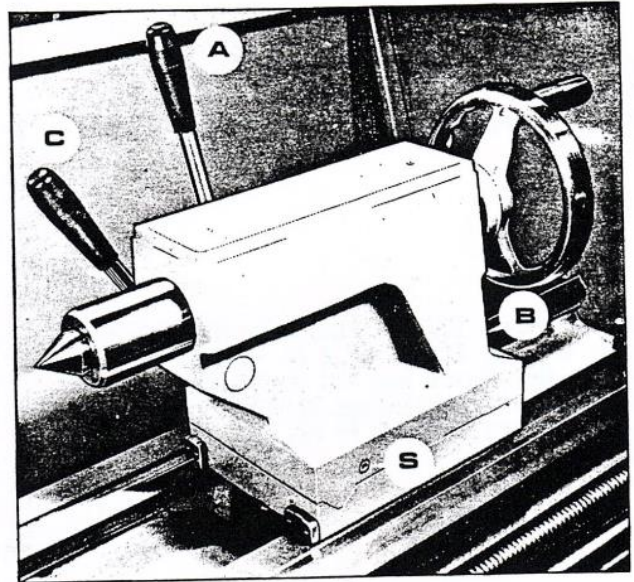
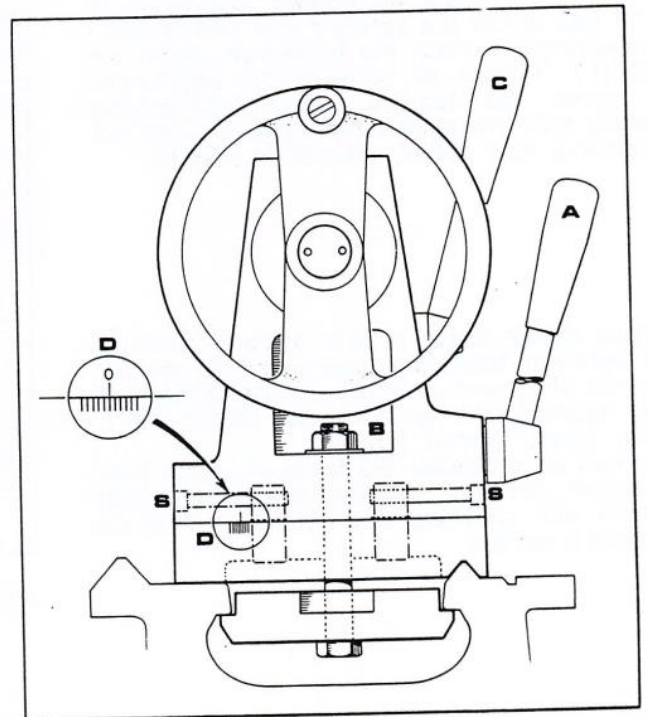

Fig. 15
Fig. 16
The tailstock barrel is locked by lever (C), see Fig. 15.
The tailstock can be set-over for production of shallow tapers or for re-alignment. Release the clamping lever and adjust screws (A) at each side of the base (Fig. 15) to move tailstock laterally across the base. An indication of the set-over is given by the datum mark (D) at the tailstock end face, as shown in Fig. 16. Apply clamp lever after adjustment of set-over.